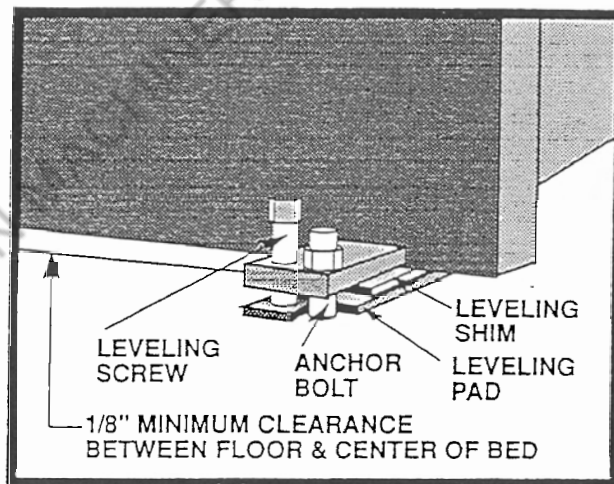

FIGURE 6
2. Level front to back by adjusting the jack screws and placing leveling shims between the bed/end frame and the leveling pads (See Figure 6).